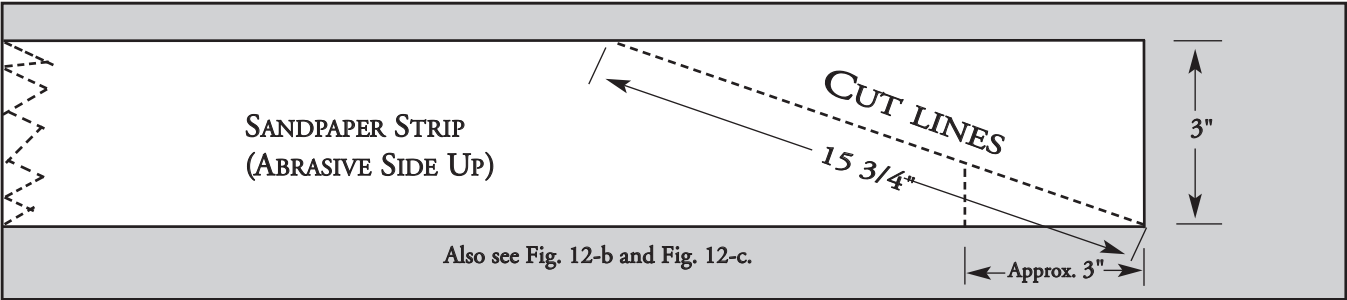

Fig. 12a Marking and cutting taper on strip.
1. Mark and cut a taper at one end of the roll as shown in Fig. 12a. Because the tapered end should use most of the left (outboard) slot width, its end must be trimmed (Fig. 12-b and 12-c). Raise the clip lever on the left (outboard) side of the drum (Fig. 12-d). Insert the tapered end through the slot and into the fastener so that it uses most of the width of the slot. Release the clip lever to securely hold the strip end in the fastener.